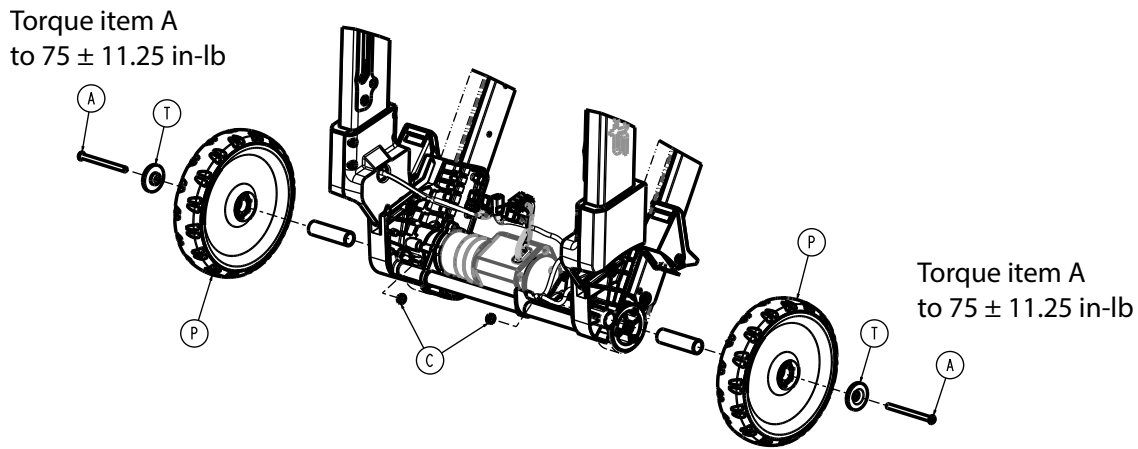

Figure 15 –
7. Using a 5/32" hex wrench, remove the button head cap screw (A), cap (T), and wheel assembly (P) (Figure 15). Save all parts.
- Use one hand to hold the lock nut (C) in the upright assembly (Figure 15). Discard the nut if you replace the wheel assembly.
- Using a torque wrench and a 5/32" hex wrench, torque the button head cap screw (A) to  $75 \pm 11.25$  in-lb when you reinstall.